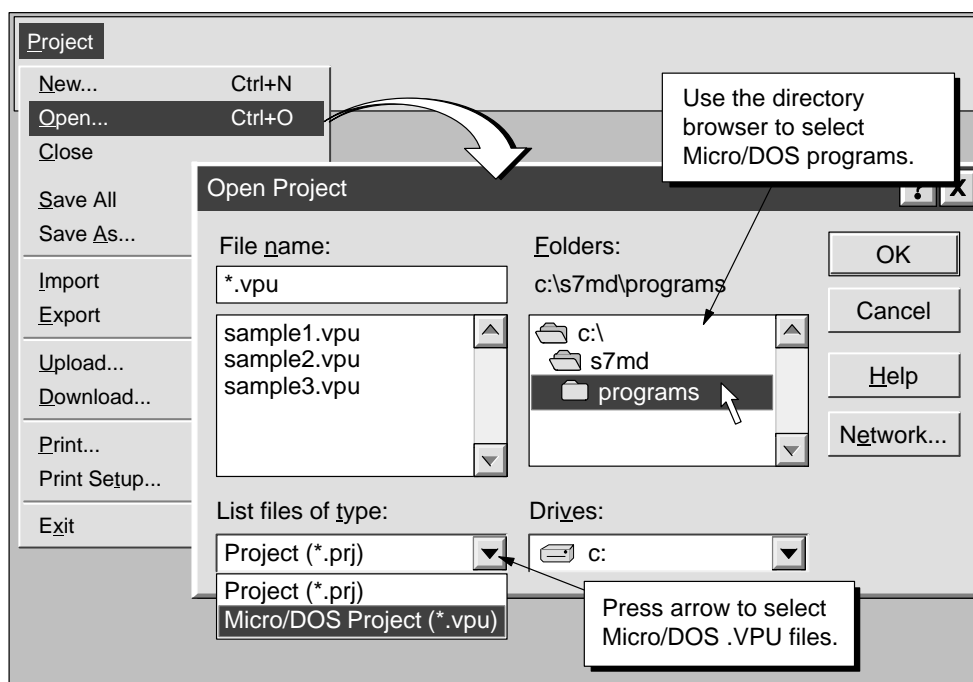

Figure D-1 Converting STEP 7-Micro/DOS Programs to STEP 7-Micro/WIN
3. Use the directory browser to select the STEP 7-Micro/DOS directory that contains the program you want to import. Double-click to display the contents in the list box on the left, as shown in Figure D-1.